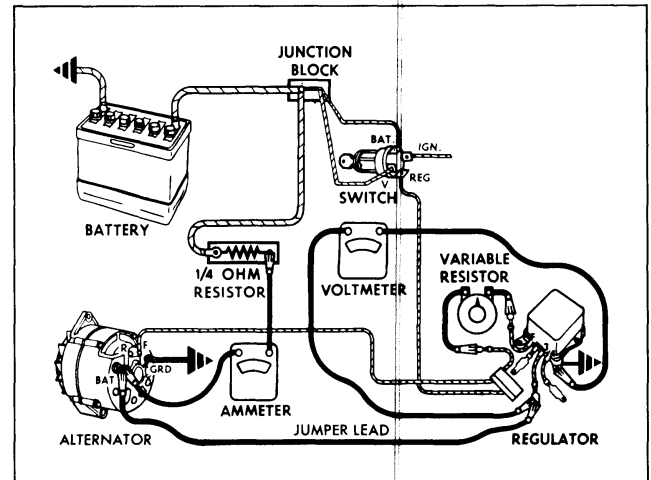

Fig. 11-32 Checking Voltage Setting
1. Connect an ammeter and a $\frac{1}{4}$ ohm resistor with a rating of 25 watts or more in series in the circuit at the "BAT" terminal on the alternator (Fig. 11-32). In case the battery is discharged, the $\frac{1}{4}$ ohm resistor will limit the alternator output to 10 amperes or less which is required when checking and adjusting the voltage setting.